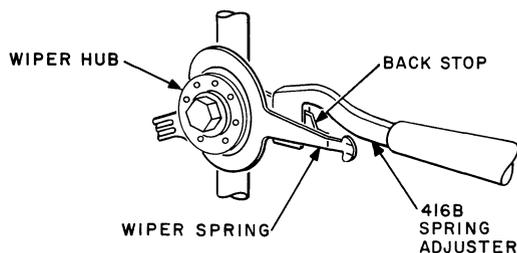

Fig. 16 — Method of Adjusting Commutator Wiper Back Stop
(3) If the commutator wiper is not equipped with a back stop, increasing the tension of the wiper spring, as described in (2), may result in failure of the commutator wiper to clear the associated commutator contact when the switch is on the first rotary step. Decrease the tension of the wiper spring slightly to obtain the necessary clearance.
(4) Insufficient overlap between the wiper spring and the commutator contact is usually due to excessive kinks or bows in the wiper spring. These may be corrected by straightening the spring with KS-7782 pliers. Where there are no excessive bows or kinks in the wiper spring, the overlap may be increased by loosening the two screws by which the commutator is attached to the banks with the 4-inch E screwdriver and shifting the commutator closer to the commutator wiper. Where the commutator mounting bracket is mounted on the base plate, loosen the bracket mounting screws with the 563A and 564A offset screwdrivers and shift the bracket as required.
(5) To adjust the clearance between the wiper spring and the back stop, adjust the back stop near the wiper hub toward or away from the spring as required with the 416B spring adjuster. (See Fig. 16.)